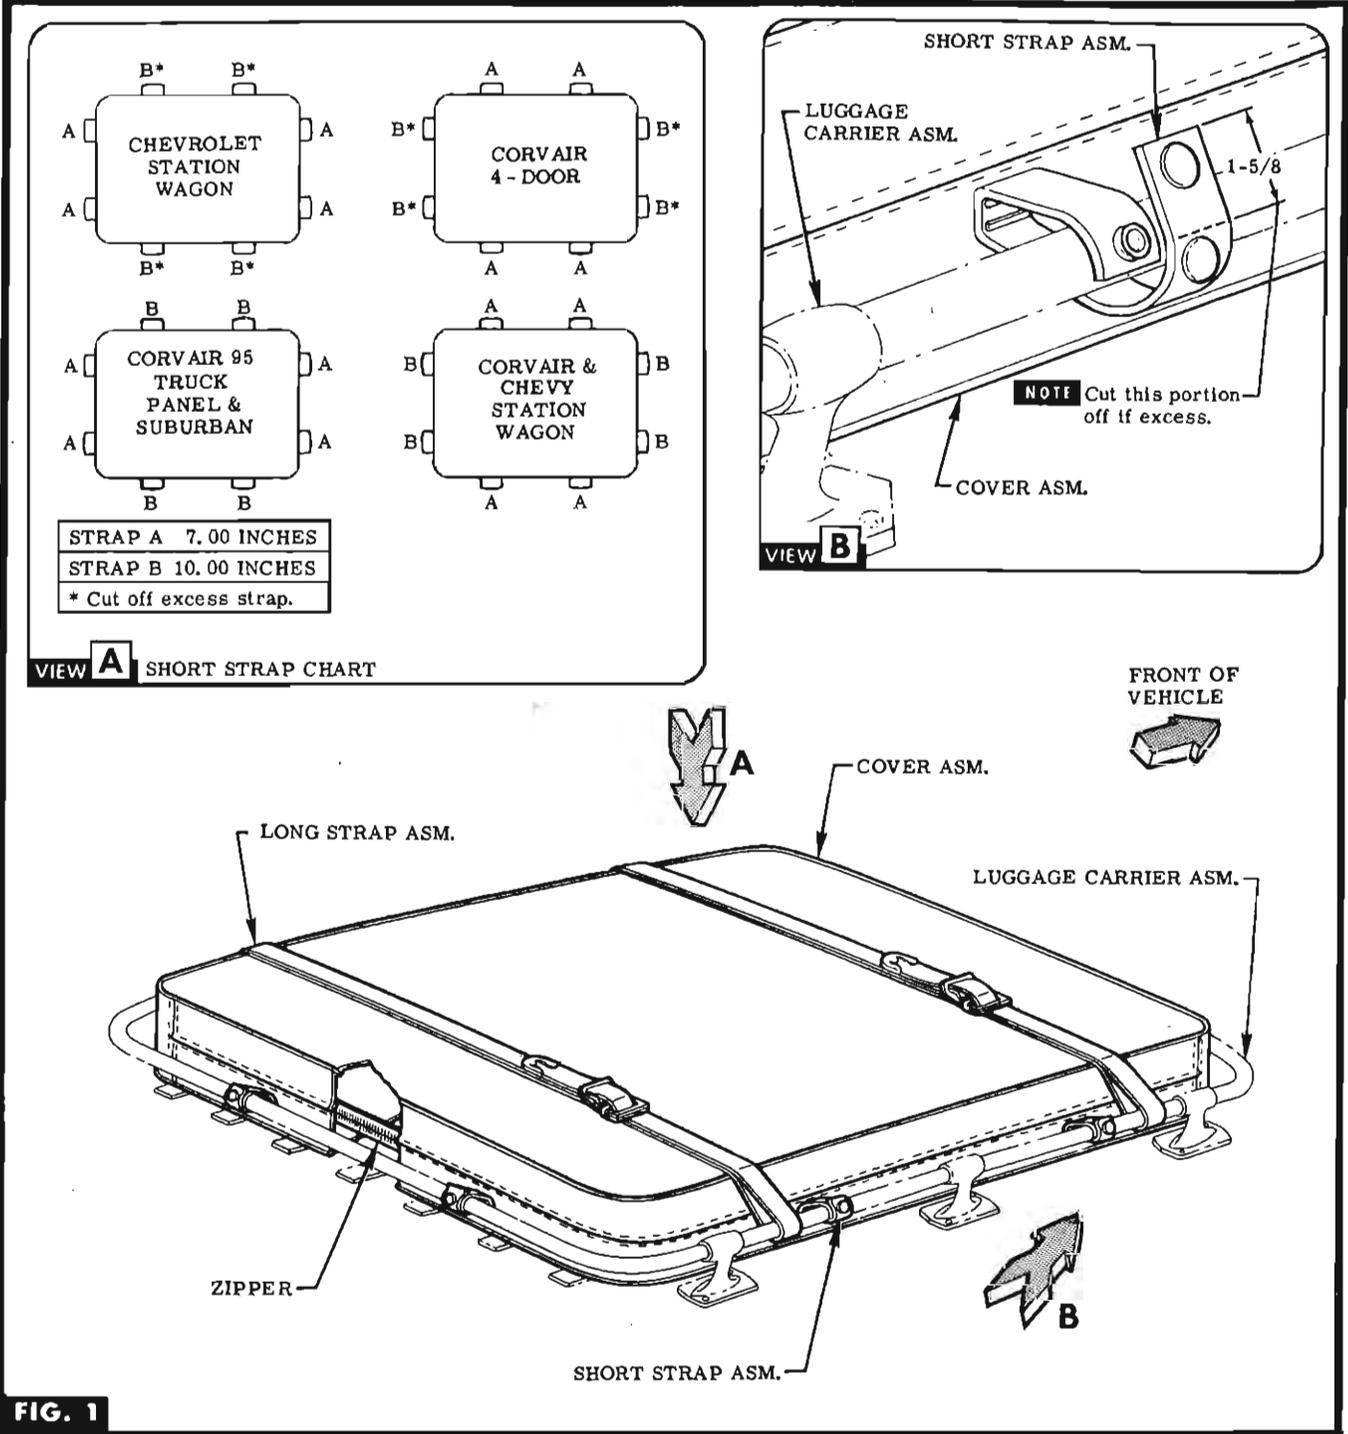

FIG. 1
STEP 1 PLACE COVER ASM. INSIDE ROOF LUGGAGE CARRIER ASM. WITH SHORT STAPLED STRAPS (DOWN) ON LOWER HALF & ZIPPER FACING TOWARD REAR & RIGHT SIDE OF VEHICLE. SEE FIG. 1.